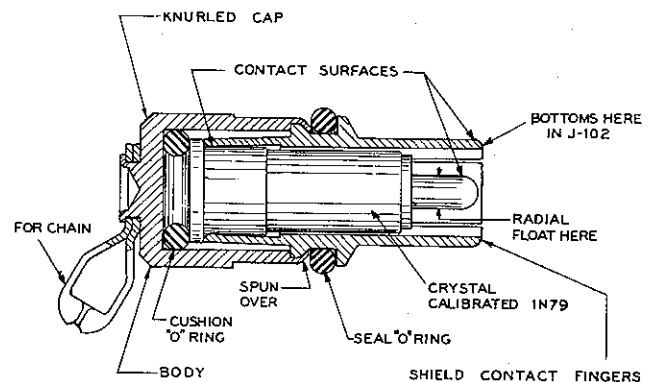

Fig. 5-1. Crystal Unit, Rectifying Crystal Diode, CR-101, CR-102
Fig. 5-1 shows the mounting of the crystal diode in its holder. Refer also to Section 2, Paragraph 6 and 8.
a. The SEAL "O" RING, Fig. 5-1, should be checked semi-annually and kept lubricated very lightly, with Dow Corning "4" compound, a non-melting silicone dielectric and lubricant manufactured by Dow Corning Corporation, Midland, Michigan.
c. In an **EMERGENCY** where the wattmeter must be used and both crystals supplied with instrument have been damaged or lost, any 1N79 crystal may be used in the wattmeter with a probable error ranging up to 20%. See Section 2, Paragraph 9. To remove crystal from the holder (See Fig. 5-1) remove the seal "O" ring and file off the lip marked "Spun Over". If a drill press or lathe is available chuck the knurled cap and file while the holder rotates. The new crystal may then be used in the body of the crystal holder without the knurled cap.